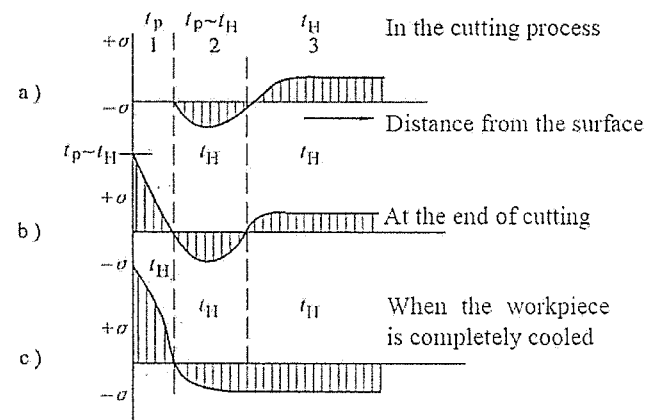

Figure 6
(2) 当 $\Delta + \Delta L < 6\sigma$ ，则能够保证不出废品
12. Analyze the influences of cutting heat on residual stress on the machined surface of the workpiece in the cutting process, at the end of cutting and when the workpiece is completely cooled in the machining process based on Figure 6. Here, t_H representing room temperature when the workpiece has high plasticity and t_p refers to the temperature; $+\sigma$ and $-\sigma$ represent tensile stress and compressive stress, respectively; 1, 2 and 3 represent three layers of metal at different distances from the workpiece surface, respectively. (6 points)